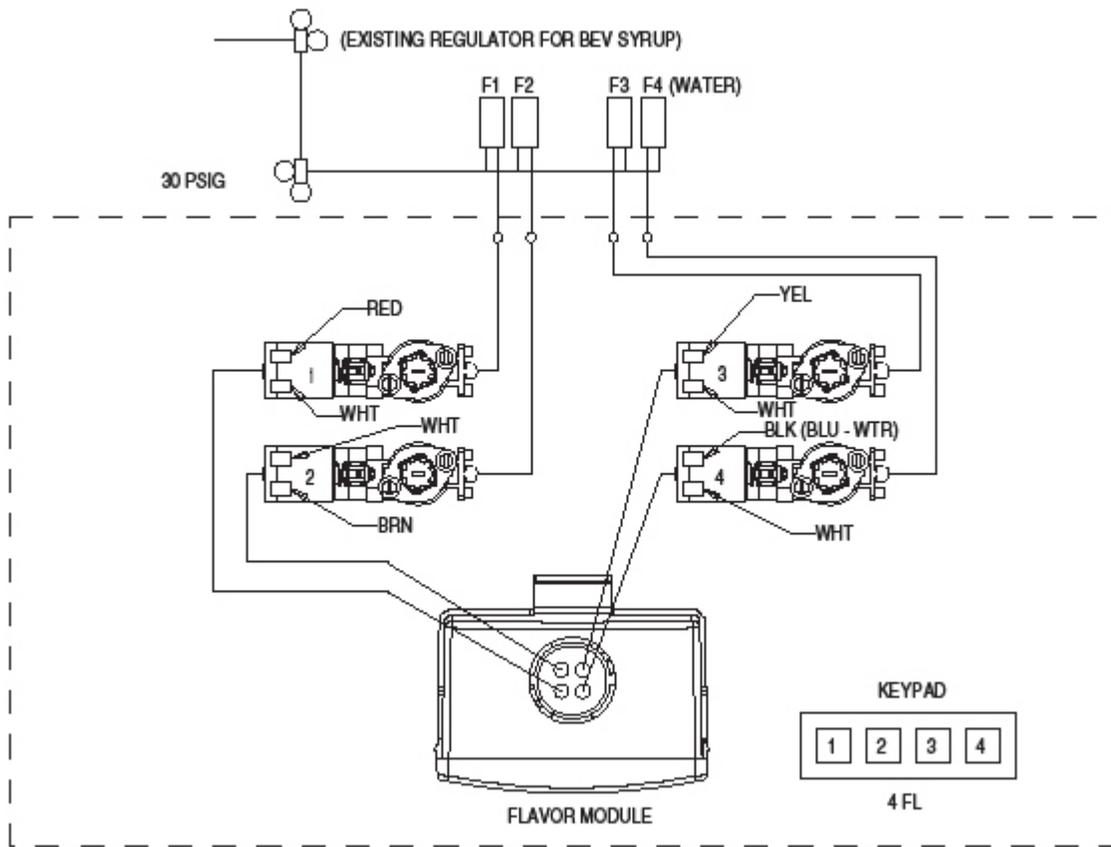

Figure 17. ED175 Plumbing/Electrical Connections
5. Connect solenoid harness to the solenoid valves prior to installing solenoid valve assemblies onto machine (See Figure 17). Proceed with installing solenoid assemblies in area where baffles were removed (See Figure 10).